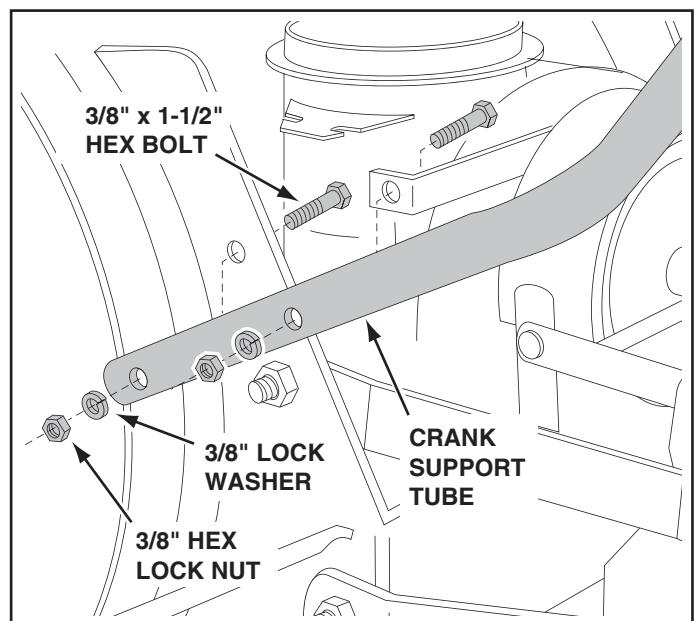

FIGURE 16
- Assemble the crank support tube (flat side) to the two brackets on the left side of the thrower housing using two 3/8" x 1-1/2" hex bolts, 3/8" lock washers and 3/8" hex lock nuts. See figure 16.